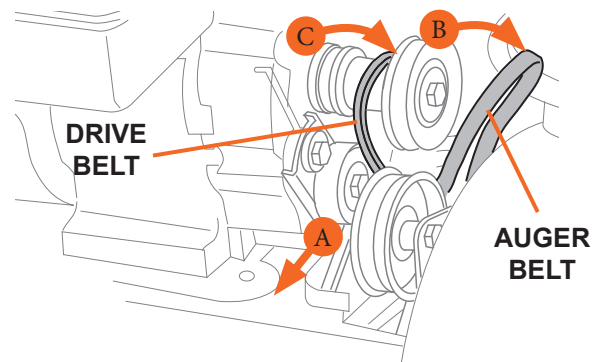

Figure 27
1. Remove the belt cover on the front of the engine by removing the two self-tapping screws (see Figure 27). Drain the gasoline from the snow blower, or place a container to catch leakage from the gas cap.
3. Roll the auger belt off the engine pulley (see Figure 27).
6. See Figure 27 and follow the steps below: